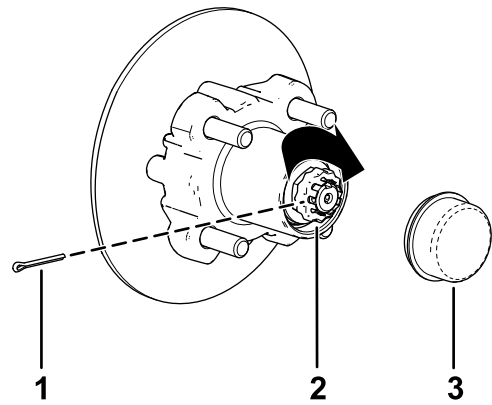

Figure 42
8. Install the retainer over the nut and check the alignment of the slot in the retainer and the hole in the spindle for the cotter pin (Figure 42).
9. Install the cotter pin and bend each leg around the retainer (Figure 42).
10. Install the dust cap onto the hub (Figure 42).